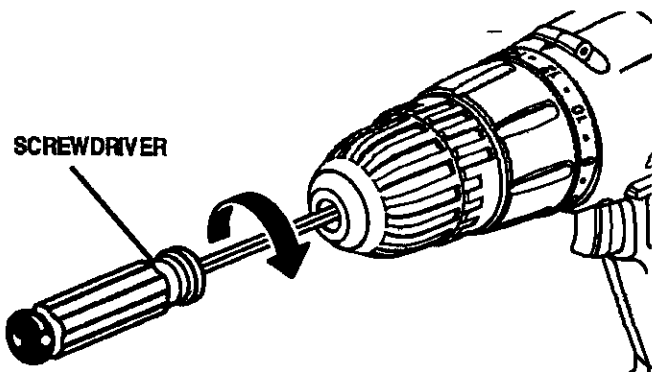

Fig. 13
- Open chuck jaws and remove hex key. Remove the chuck screw by turning it in a clockwise direction. See Figure 13.